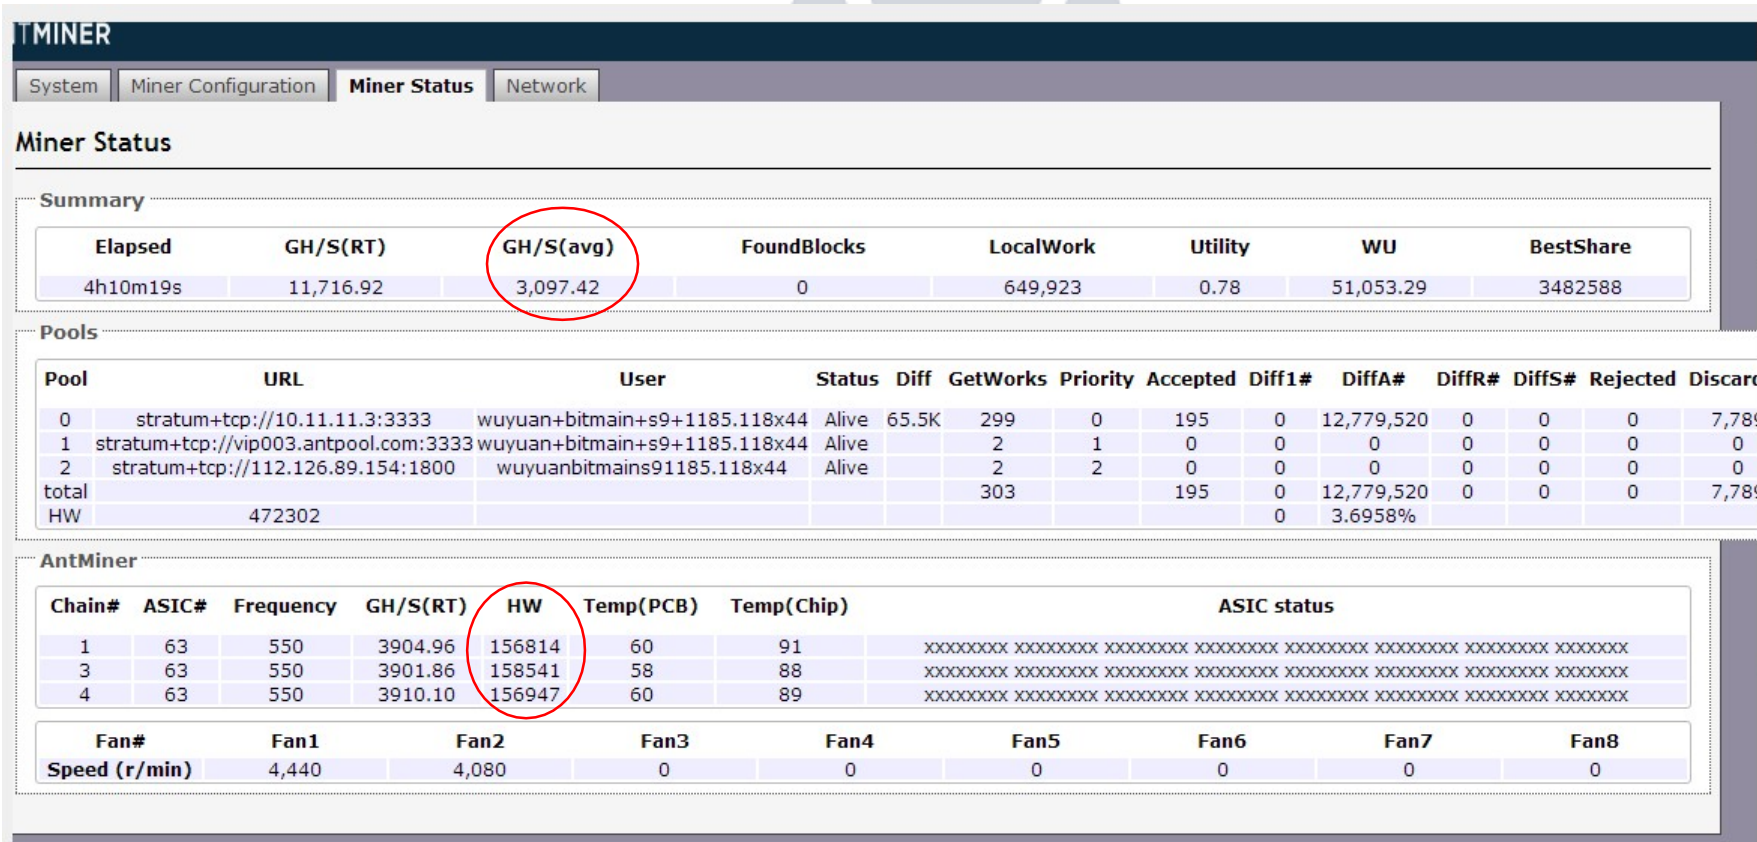

Fig 29. GH/S(avg) Low Hasing and All Chips Appear X
6) Has GH/S(RT), GH/S(AVG) is low, and all chips appear X. See Fig 29: